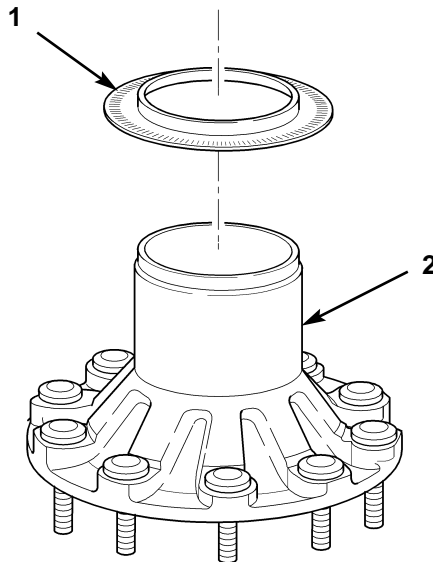

Figure 1. Removing Front Tone Ring.
1. Position front hub (figure 1, item 2) on flat surface with tone ring (figure 1, item 1) facing up.
2. Using flat and narrow piece of wood, approximately 12 in. (30.5 cm) in length, and hammer, carefully remove tone ring (figure 1, item 1) from front hub (figure 1, item 2).